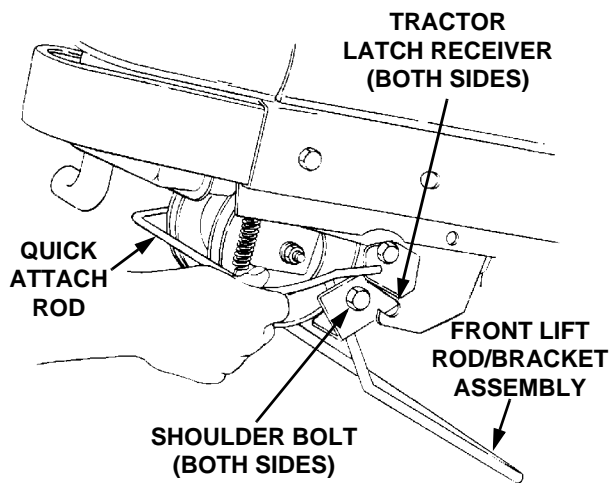

Figure 48
9. From the front of the tractor, push downward and hold the tractor quick-attach rod. Pull the front lift rod/bracket assembly forward to release the shoulder bolts on each side of the bracket from the left and right tractor latch receivers. Release the tractor quick-attach rod (Refer to Figure 48).